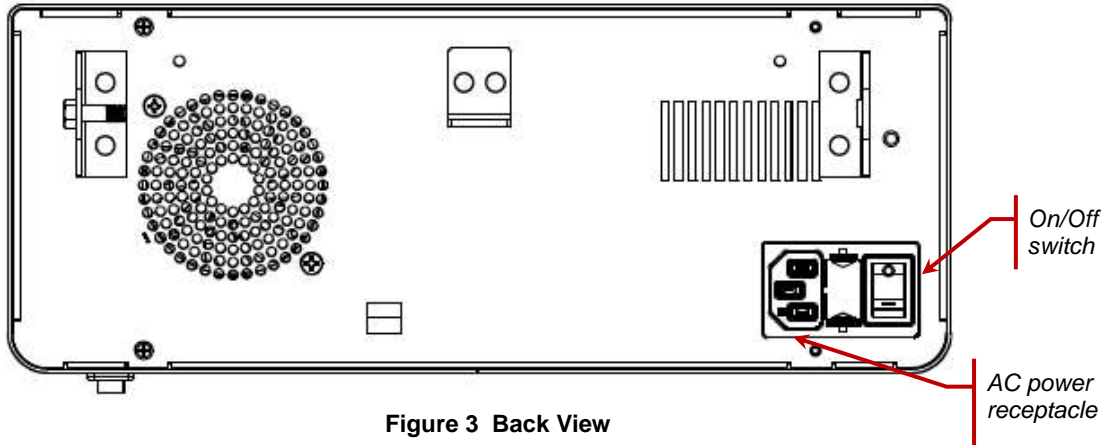

Figure 3 Back View
3. Insert the supplied detachable AC power cord into power receptacle in the rear. Refer to Figure 3.